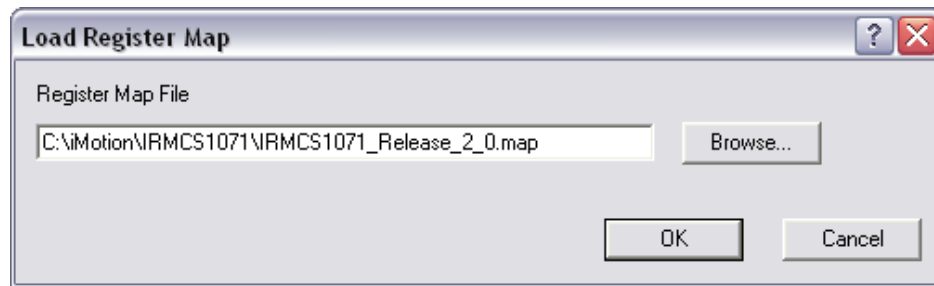

Figure 52—The Import Register Map Dialog
3. When the Load Register Map window (Figure 52) appears, you can enter the pathname of your map file or click the Browse button to browse for the map file.